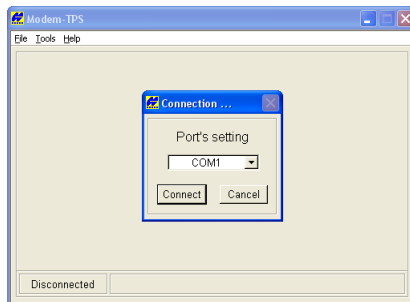

Figure 3-10. Connect to Modem-TPS
2. Open Modem-TPS and select the COM Port the receiver is connected to (Figure 3-10). Click **Connect**.
6. On the *Serial Interface* tab (Figure 3-10 on page 3-17), select a baud rate for the modem's serial port. For the GR-3 digital UHF, the baud rate must be set to **115200**. The same rate must be used for both the receiver and the modem.